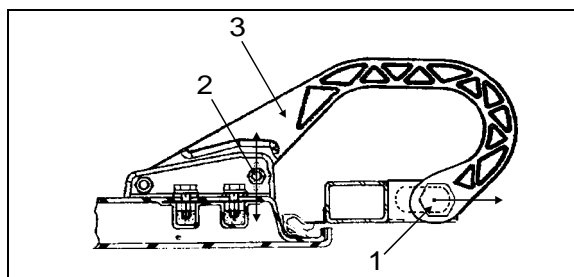

FIGURE 74: DOOR HINGE
2. Loosen nut (1, Fig. 74).
3. Move part (3, Fig. 74) as shown in figure for "LEFT or RIGHT" adjustment.
4. Tighten nut (1, Fig. 74).
5. Loosen nut (2, Fig. 74).
7. Loosen screws (3, Fig. 74). Screws allow the door to be shifted "UP or DOWN".